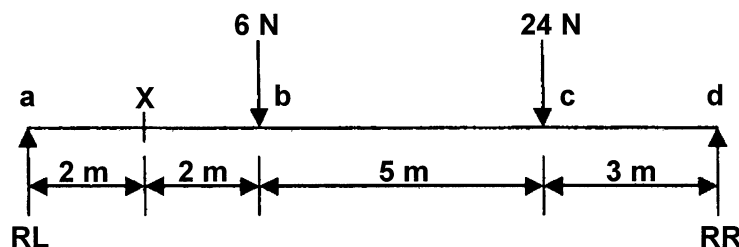

Figure 3
**Figure 3** shows a simple supported beam of 12 metres long. The beam carries two point loads.
3.1 Prove by means of calculation the left reaction force (LR) is 10 N and the right reaction force (RR) is 20 N. (4)